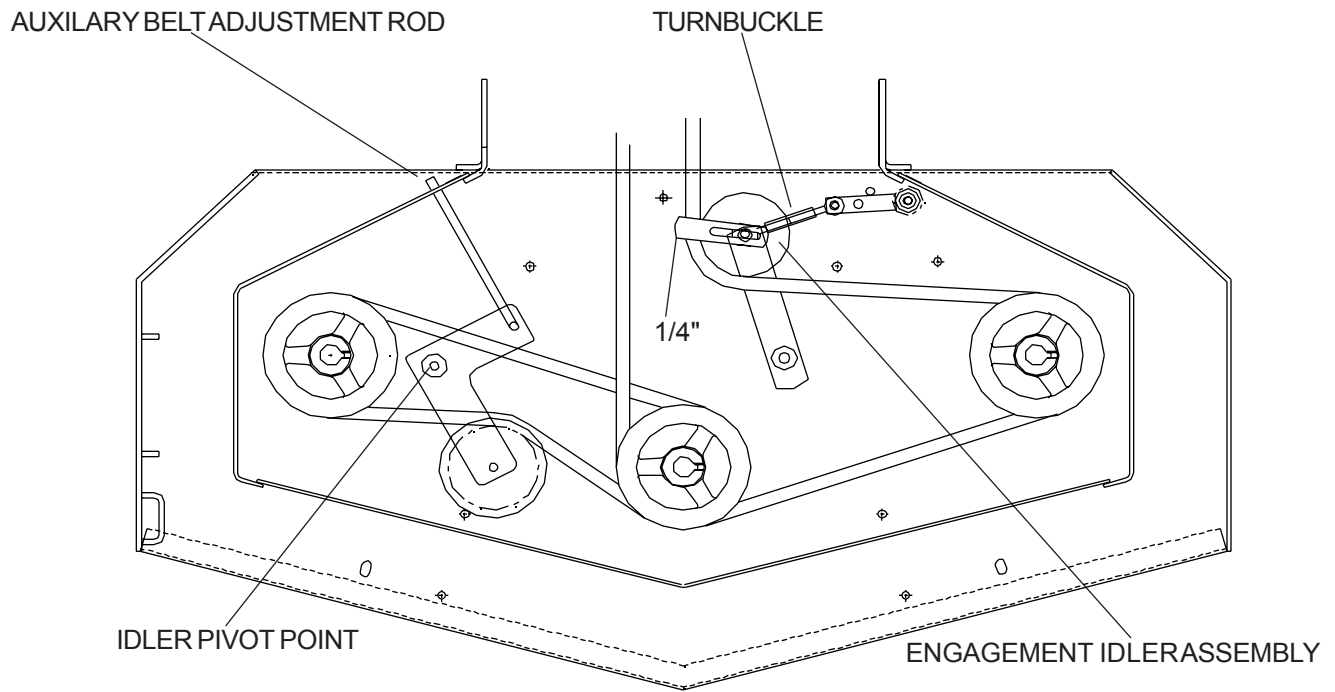

Figure 6
To adjust tension of the auxiliary belt rotate nut on linkage that is attached to deck strap located on the right side of cutter deck. See Figure 6.
3. Loosen the snubber bolt on the engagement idler so belt can be removed. The engagement idler is located on the front deck towards the rear. See figure 6 on page 11.
1. Loosen the auxiliary belt adjusting rod. To relieve tension on the belt. See figure 6 on page 11.